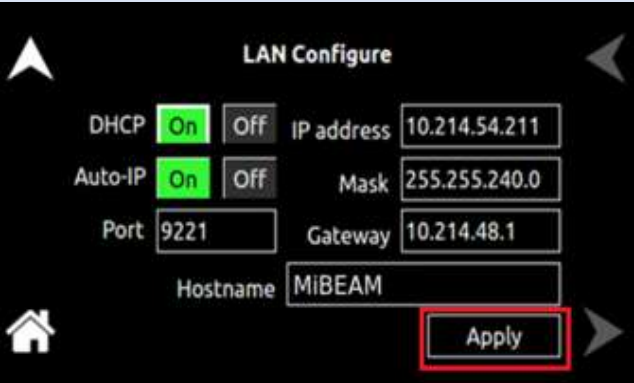
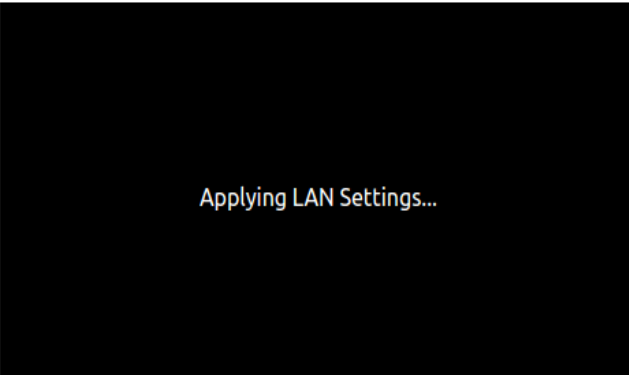

Figure 13-49. LAN Screen – Apply
Figure 13-50. LAN Screen - Applying LAN Settings
- **Apply:** Applies the LAN settings to the supply. Refer to Figure 13-49 and Figure 13-50.